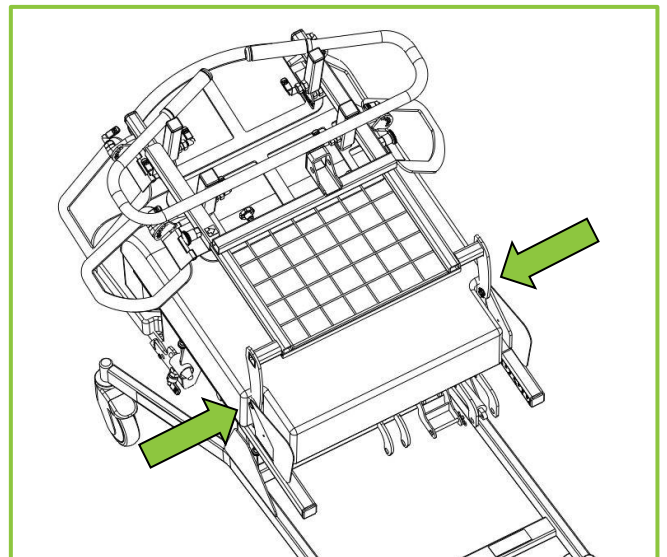

Figure 13
8. Place the postural backrest on the chair frame (Figure 13) and refit the bolts, washers, and nuts (Figure 11) to the hinges. Ensure the M10 washers are fitted over the shoulder of the bolts, and the M8 washer is fitted on the threaded part.